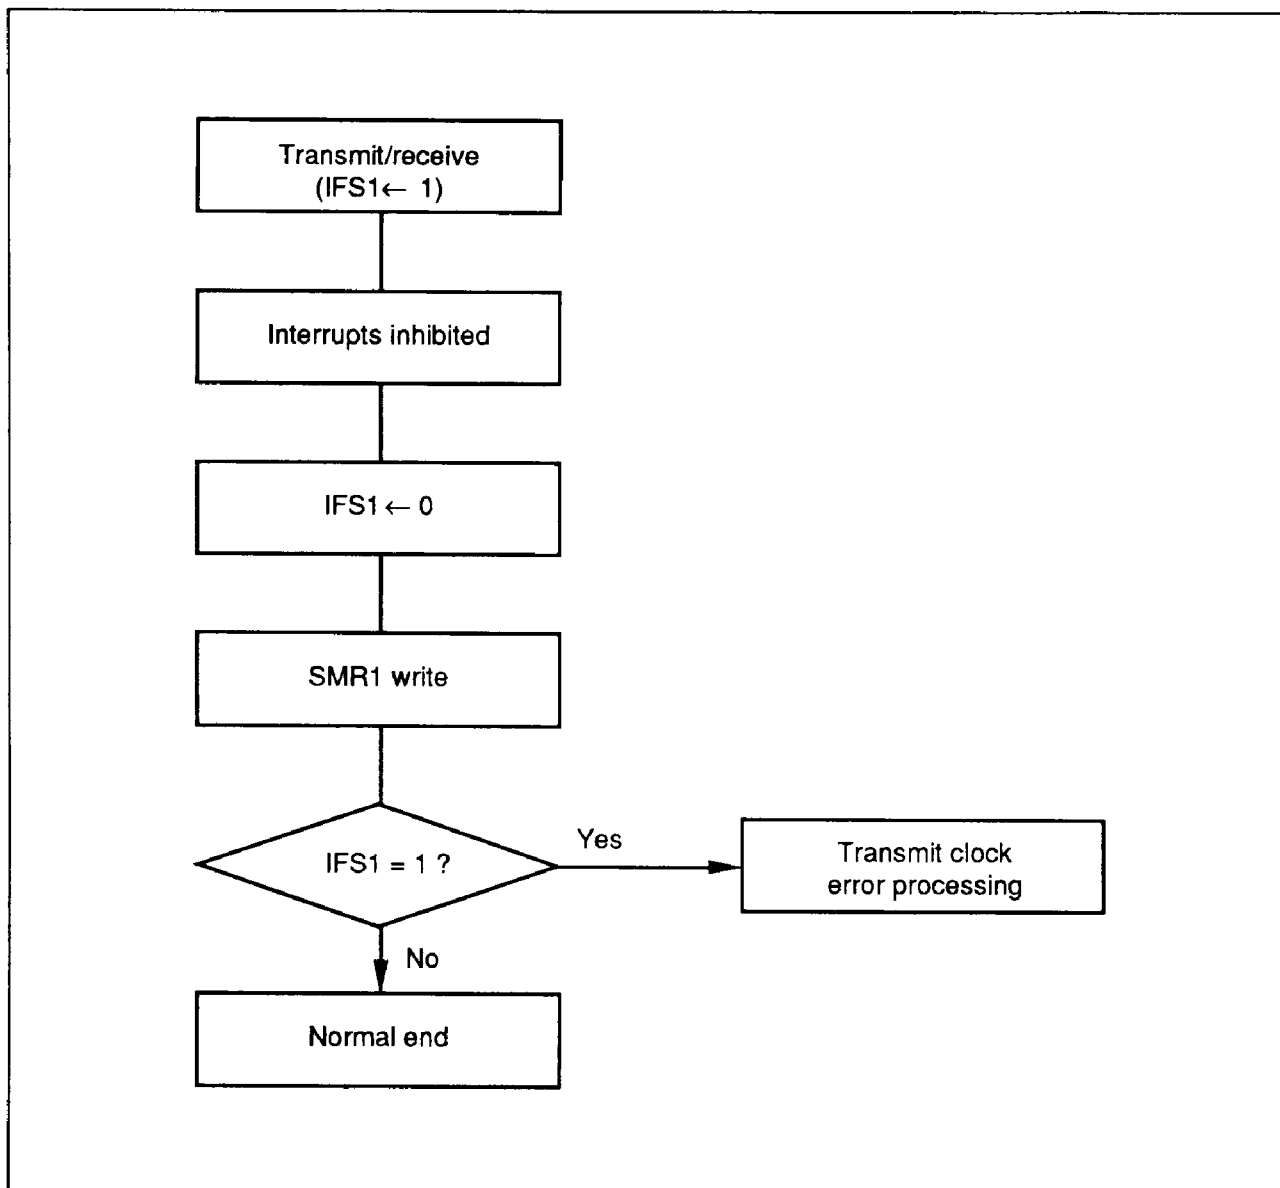

Figure 44 Transmit Clock Error Detection
**Transmit Clock Error Detection:** Serial interface 1 will malfunction if a spurious pulse caused by external noise conflicts with a normal transmit clock. Such errors can be detected as shown in figure 44.